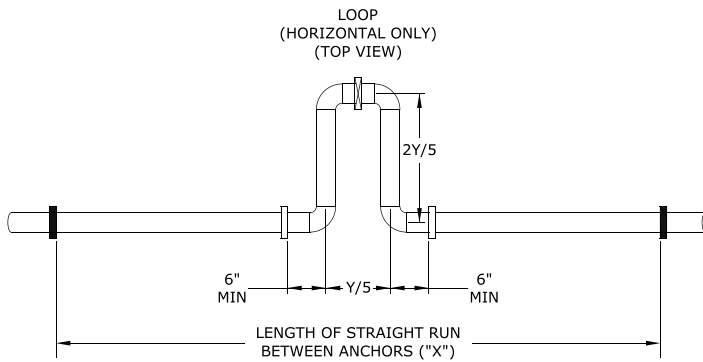

Figure 7.3a
- For CPVC/PVC pipe design, the vent system shall allow 3/8" of thermal expansion for every 10ft of CPVC/PVC pipe. The boiler will always act as an anchor to one end of the vent system. If at all possible, select and install hangers and wall thimbles so that the vent system can expand towards the terminal. When a straight run of pipe exceeds 20ft and must be restrained at both ends, an offset or expansion loop must be provided (Figures 7.3a, 7.3b). When a straight horizontal run of pipe exceeds 20ft and is restrained at one end with an elbow at the other, avoid putting a hanger or guide less than "Y" inches from the elbow in the adjoining straight section (Figure 7.3c). Thermal expansion fittings are not permitted.